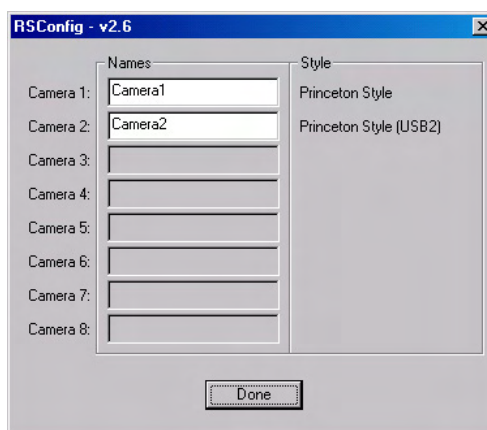

Figure 216. RSConfig dialog box: Two Camera Styles
4. Run RSConfig.exe (accessible from the **Windows|Start|Programs|Roper Scientific** menu). If the USB 2.0 camera is listed as Camera 2 (Princeton Style (USB2) in Figure 216), you will have to edit the PVCAM.INI file.